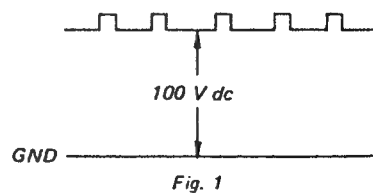

Fig. 1
1. Adjust BKG VRs (RV701, RV703, and RV705) so that voltages on the red, green and blue cathodes are 100Vdc with an oscilloscope as shown in Fig.1.